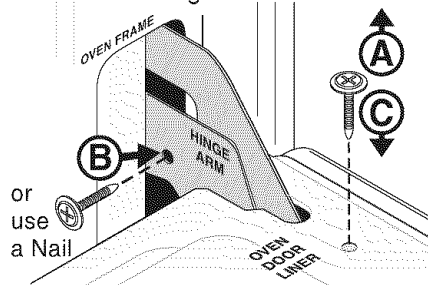

Fig. 2
2. Remove 2 screws located on the inside of the oven door liner (See A Fig. 2)
3. Insert the 2 screws into the door hinge holes located on the side of the hinge arm, one into each hinge (See B Fig. 2).
5. Reinstall the 2 screws into the door liner (See C Fig. 2).